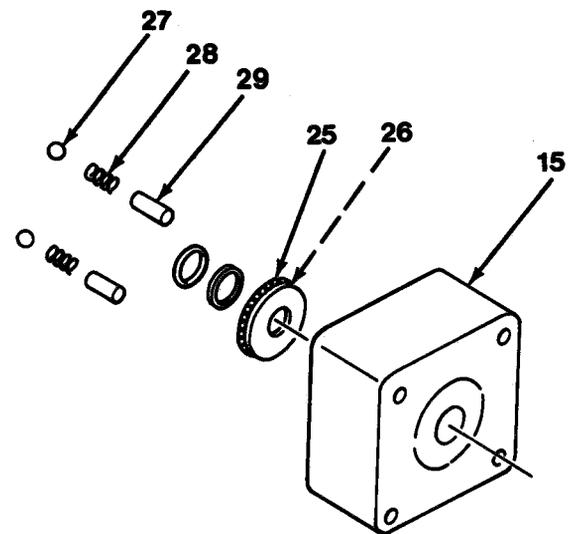

Figure 13-4
6. Remove disc (22), stop plate (23) and shaft (24).
7. Remove bearing (25) and race (26) from cap (15, Figure 13-4).
8. Remove two detent balls (27), detent springs (28) and detent bushings (29).
1. Install stop pin (32, Figure 13-5) and two detent bushings (29, Figure 13-4).
2. Install two detent balls (27) and detent springs (28).
4. Install race (26) and bearing (25, Figure 13-4).